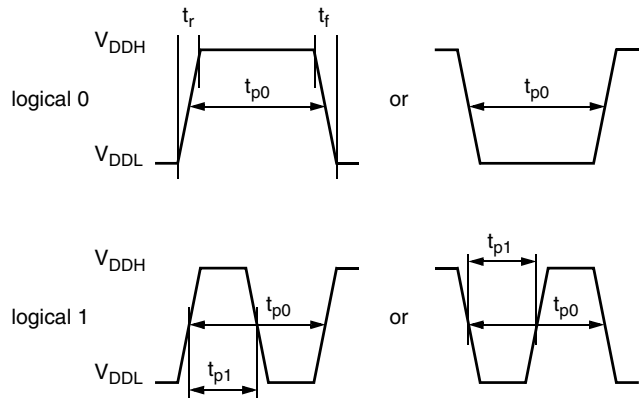

Fig. 5–1: Definition of logical 0 and 1 bit
- Write a register (see Fig. 5–2)
- Read a register (see Fig. 5–3)
- Programming the EEPROM cells (see Fig. 5–4)
- Activate a transducer (see Fig. 5–5)